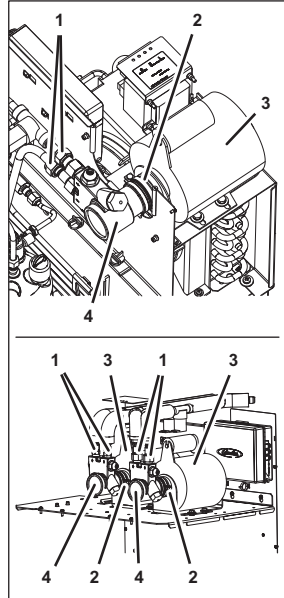

Figure 60
1. Disconnect the lines by releasing the couplings (Figure 60/1) from the carbonator pump (Figure 60/4).
2. Remove the clamp (Figure 60/2).
3. Disconnect the carbonator pump (Figure 60/4) from the carbonator pump motor (Figure 60/3).
4. Lift the carbonator pump (Figure 60/4) out of the unit.
6. Position the new carbonator pump (Figure 60/4) on the carbonator pump motor (Figure 60/3).
7. Attach the carbonator pump (Figure 60/4) to the carbonator pump motor (Figure 60/3) using the clamp (Figure 60/2).
8. Connect the lines to the carbonator pump (Figure 60/4) by means of the couplings (Figure 60/1).